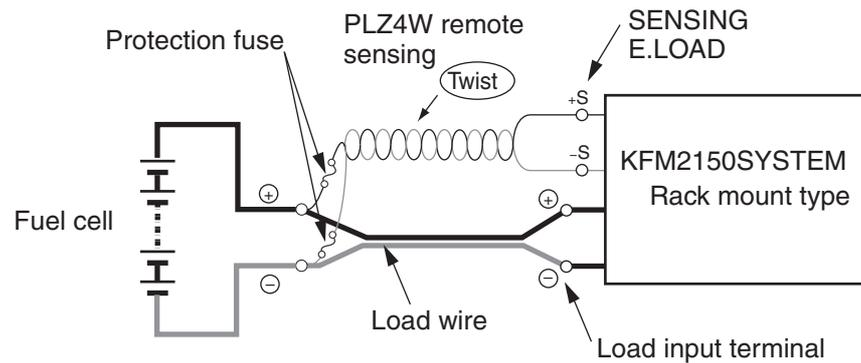

Fig. 3-7 PLZ4W remote sensing wiring
- CAUTION** • If the load wire comes loose while using PLZ4W remote sensing, the sensing wire or the PLZ-4W remote sensing circuit may break. Accidents can be prevented by connecting a protection fuse as shown in Figure 3-7. Use a fuse with a rated current of 0.5 A and a rated voltage greater than or equal to the output voltage of the fuel cell under test.